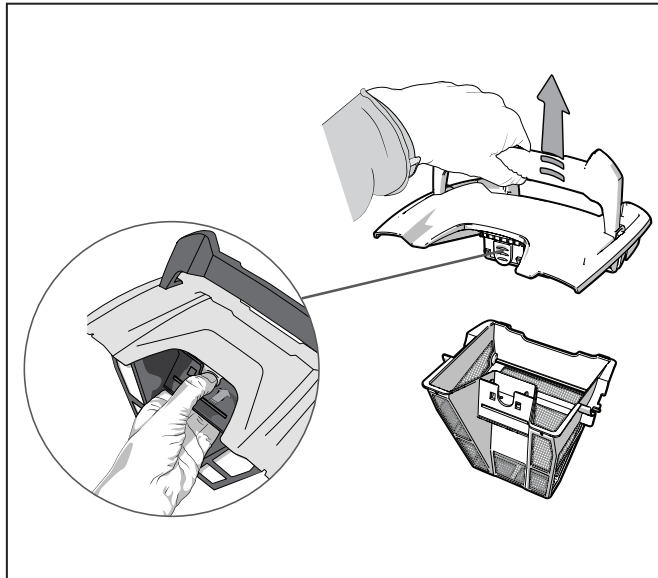

Figure 12. Remove Filter Canister Lid
4. Press the interior latch and remove the filter canister lid (Figure 12).